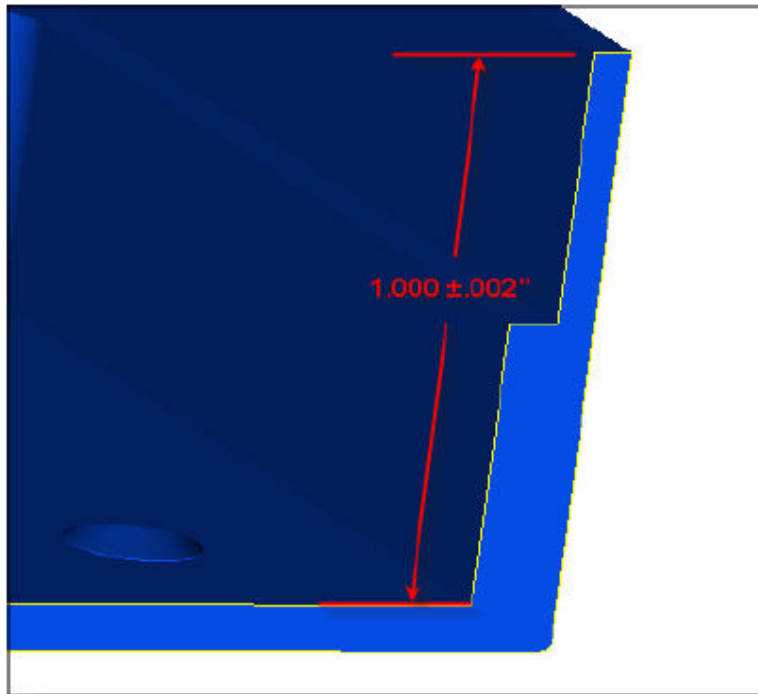

Figure 9: Faces on the same side are easier to hold to tight tolerances, Source: Pro CNC Inc.
- In general, features that are created by the machine tool capability will be easier to hold to a high tolerance than features which require operator handling and loading into subsequent fixtures. For example, an easy to hold tolerance is the dimension between two steps on the same side of a part (see Figure 9). The same tool will be used on these faces and the positional accuracy of the machine tool will be the primary contributor to variability. On the other hand, if